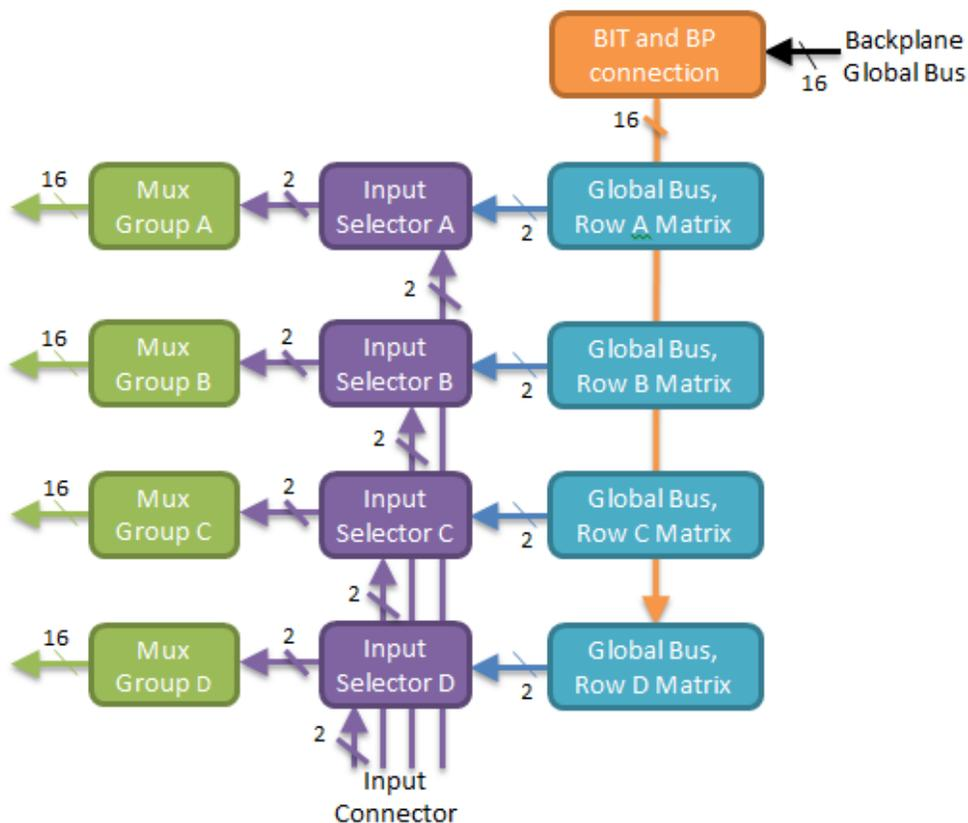

Figure 2-12: Diagram of the Switching Sections of the GX6864
- The multiplexer has four switching groups, A-D. Each group has 16 output channels. In order to reduce stubs length, the implementation is done using 1:2 multiplexers as building blocks. A total of 15 such multiplexers are used for each input. Figure 2-12: Diagram of the Switching Sections of the GX6864 includes a schematic of a multiplexer group. Each of the inputs has its switching path shown in a different color.